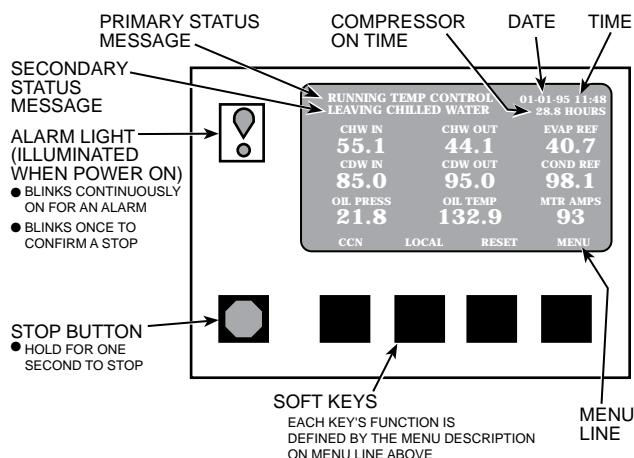

Fig. 10 — LID Default Screen
- The LID display will automatically revert to the default screen after 15 minutes if no softkey activity takes place and if the machine is not in the Pumpdown mode (Fig. 10).